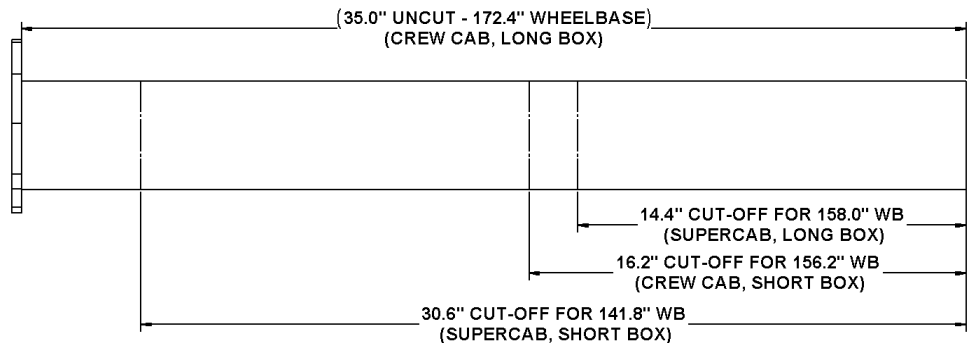

Figure 7
1. The **Extension Pipe** is pre-cut for the 172.4" (crew-cab long-box) wheelbase. Cut the **Extension Pipe** to the appropriate length for the installation vehicle. **Refer to Figure 7.**